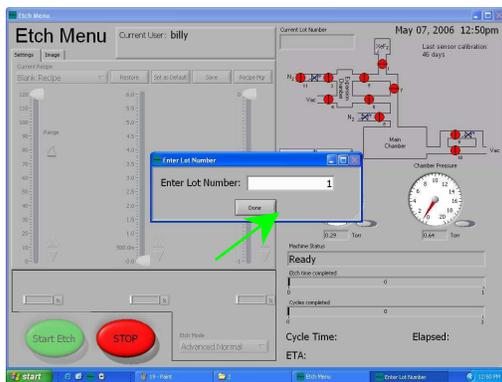

Figure 2.10
8. Key in any number in the **Enter Lot number** for process trace back (Figure 2.10)